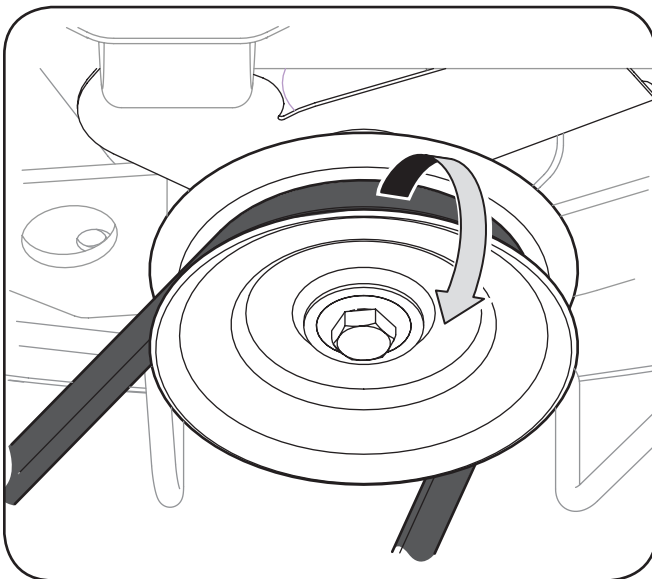

Figure 7-2
4. Remove the belt from around the tractor's PTO pulley. See Figure 7-2.
3. Remove the deck belt from around the unit's PTO drive pulley as shown in Figure 7-2. Simply roll one side of the belt off of the pulley and then work it off the pulley by continuing around the pulley until the belt is off of the pulley.
7. Feed the deck belt around and onto the PTO drive pulley. Refer to Figure 7-2.